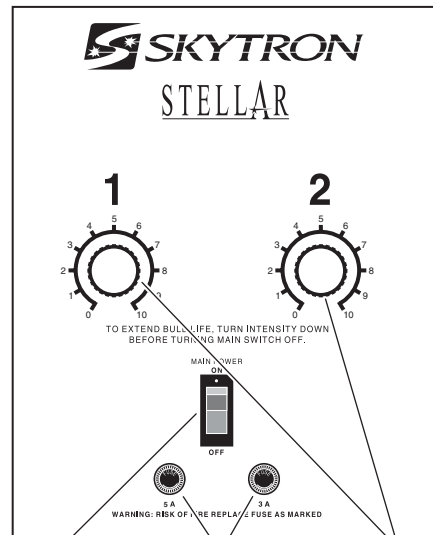

Figure 4. Wall Mounted Control Box
2. Turn the light fixture main power switch "ON" at the wall mounted control box and select the desired intensity for each lighthouse as required. See figure 4. The mid-range position will provide adequate illumination for most procedures. Full intensity will usually only be required for extreme deep cavity cases.